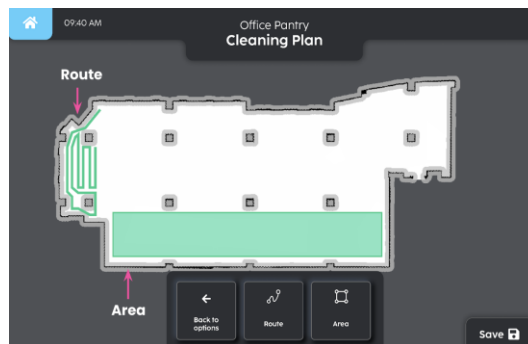

FIGURE 4-12
2. Create Cleaning Plans (Fig. 4-12)